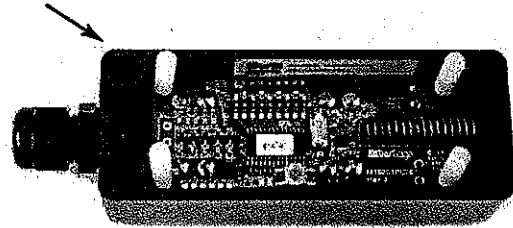

**Fig. 2-6 WIRE CONNECTION TO TERMINAL BLOCK**
- 2-4. Place the two (2) AA batteries in their holders on the Transmitter in the proper direction, paying attention to the (+) and (-) ends. Momentarily press the *Test Button* on the Transmitter. The *Green Tx LED Indicator* should light for 3 seconds. To test the Alarm on the MWTA12 Model, press and hold the *Test Button*. The Alarm should sound in approximately ten (10) seconds. Release the *Test Button*.
- 2-6. Strip the insulation from the two wires back 1/4". Pull the *Terminal Block* off the Transmitter's PCB. Place the safety edge wires in the *Terminal Block* and tighten with screwdriver. Re-seat the *Terminal Block* on the PCB (see Fig. 2-6).